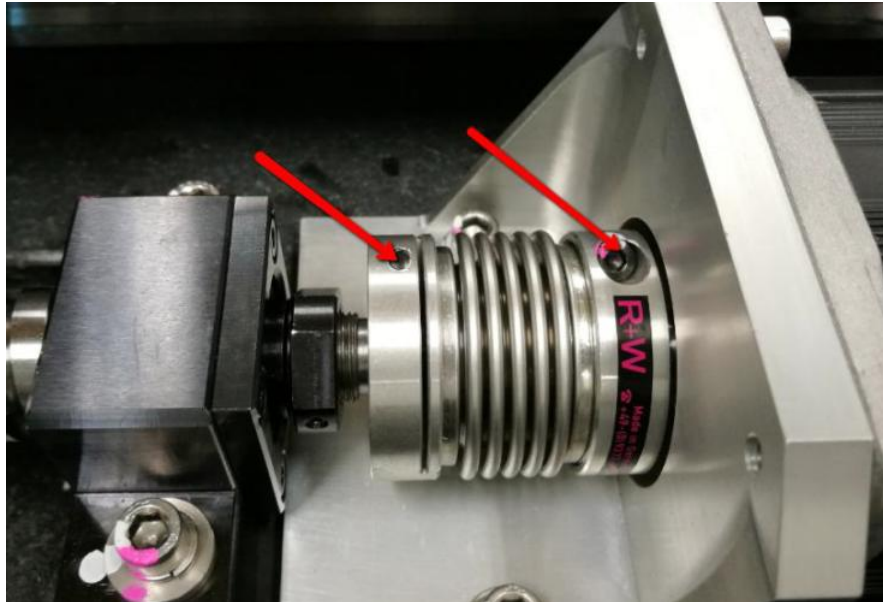

Figure 37 Coupling screws fastening (MUST BE VISIBLE)
39. Fully insert Servo motor with the MOTOR MOUNT, Y-AXIS (P/N, 4XAXY-011) to 2660-0032 (Coupling) and hand tight 2 x Screws as below Figure 37.